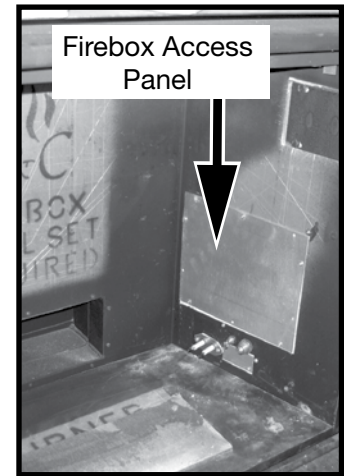

Figure 6: Firebox access panel.
3. Remove access panel from right hand side of the firebox (Figure 6).